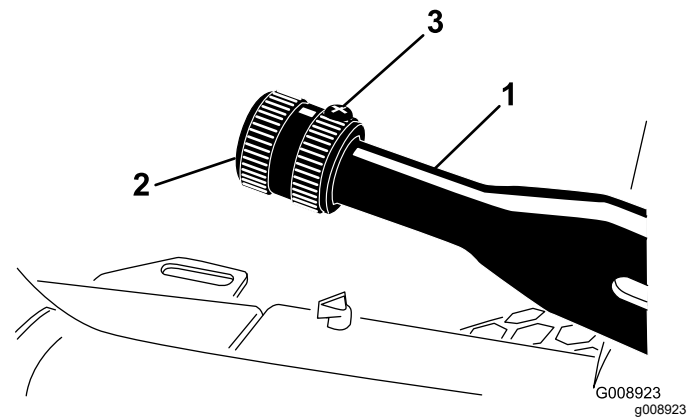

Figure 63
2. Loosen the setscrew securing the knob to the parking-brake lever (Figure 63).